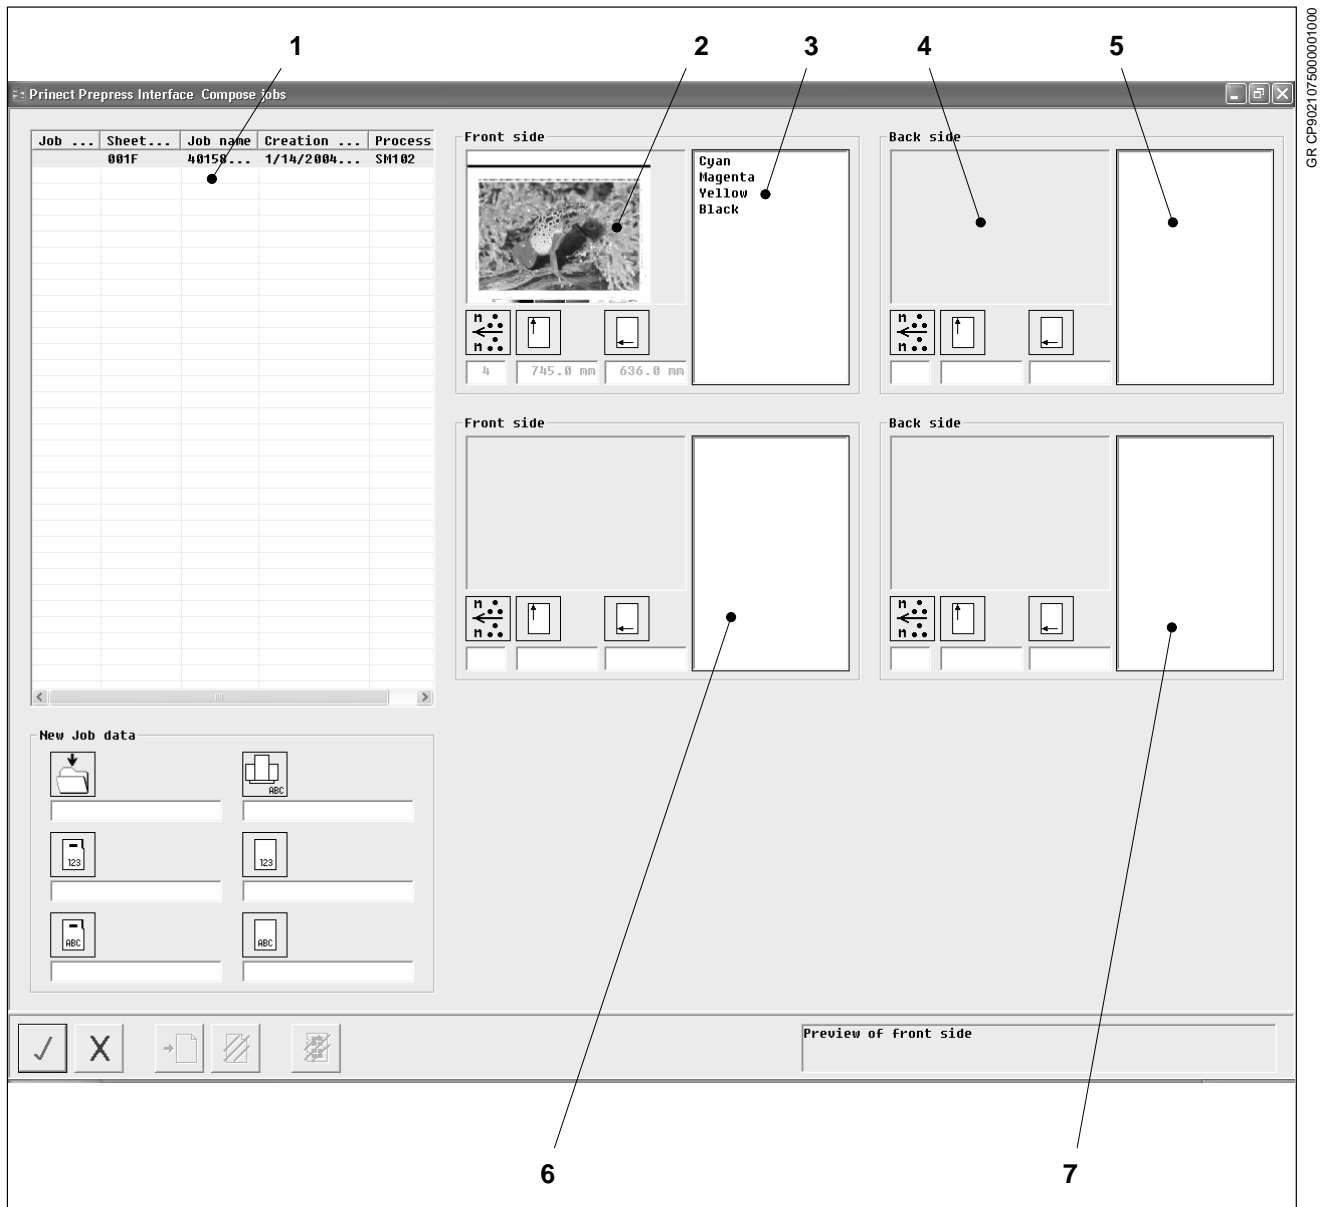

Fig. 15 The *Combine separations* dialog window
Click on the *Combine separations* button. The *Combine separations* dialog window shown in Fig. 15 opens.
In the top left area (Fig. 15/1), it shows a list of all available jobs.
2. Select the required print job in the list (Fig. 15/1).
The upper *Straight printing* and *Perfecting* sections (Fig. 15/2, 4) show the thumbnails of the print image (Fig. 15/2) and the color separations (Fig. 15/3, 5) of the selected print job for the straight printing (front) side and perfecting (reverse) side.
The lower *Straight printing* and *Perfecting* sections (Fig. 15/6, 7) show the thumbnails of the new print image and the color separations of the new print job for the straight printing (front) side and perfecting (reverse) side.